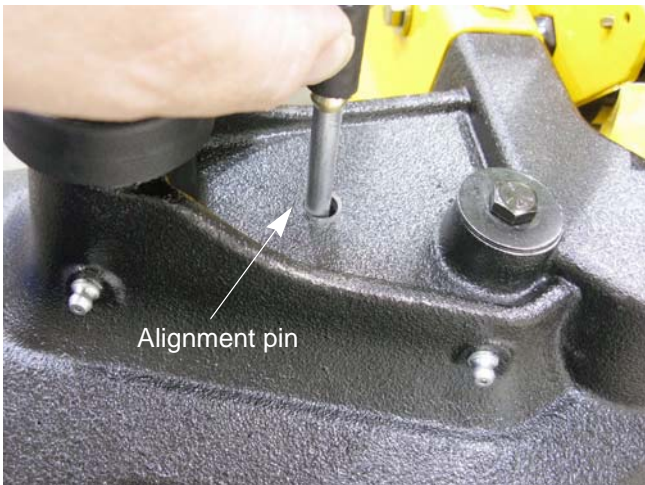

Figure 5.4
9. Insert the axle casting (5/16") alignment pins into the alignment holes in both axle castings. See Figure 5.4.